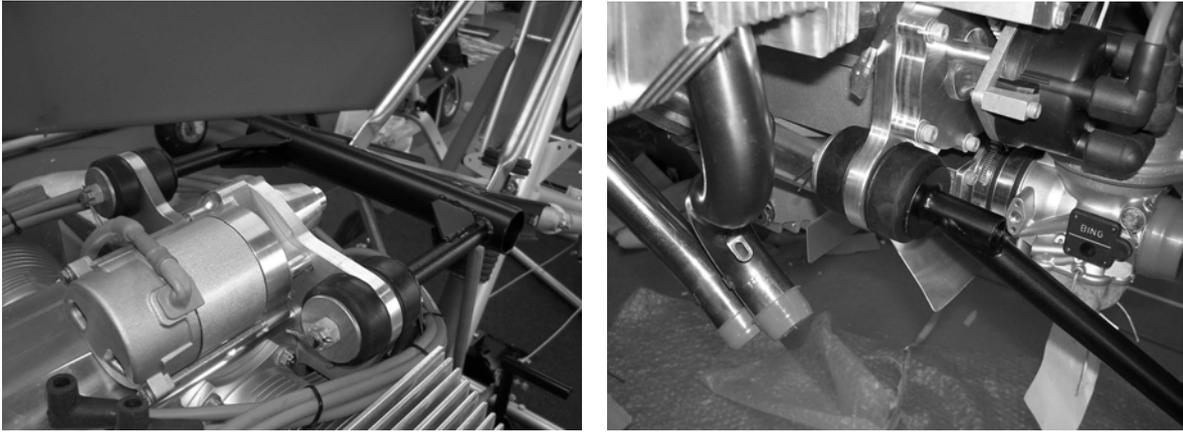

Figure 140; Jabiru engine mountings.
- c) Fit the engine to the mount, Figure 140.